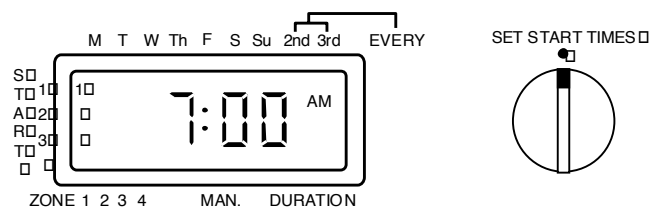

Figure 8
3. Press **ENTER** to record first start time. (See Figure 8.)